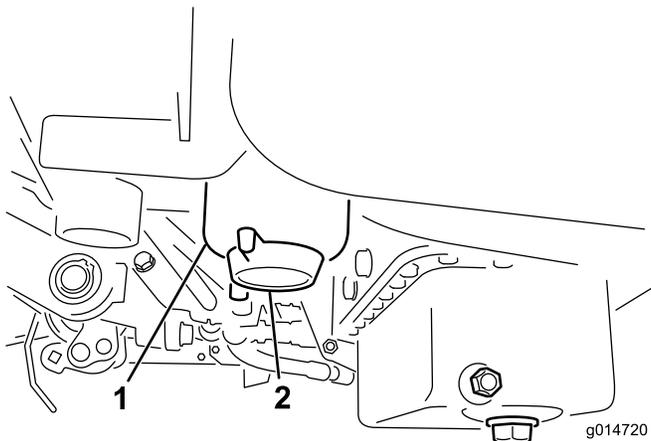

Figure 34
3. Open the drain plug on the fuel filter approximately one turn and drain any accumulated water (Figure 34). Tighten the plug after draining.